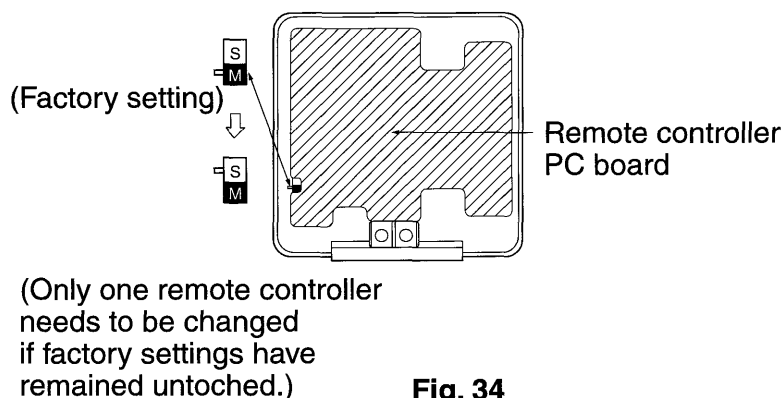

Fig. 34
- (Leave the switch of the other remote controller set to “M”.) (Refer to Fig. 34)